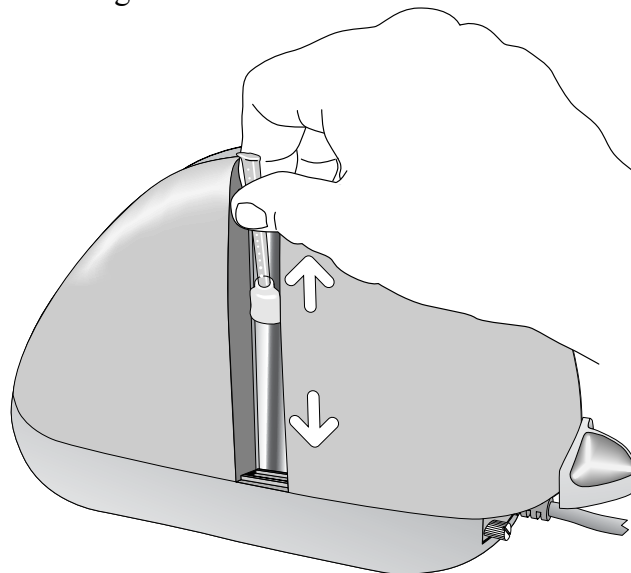

Figure 3-6. Cleaning the Imager
5. When the tip of the swab is damp, clean the Imager by wiping the swab up and down the Imager as indicated in Figure 3-6.